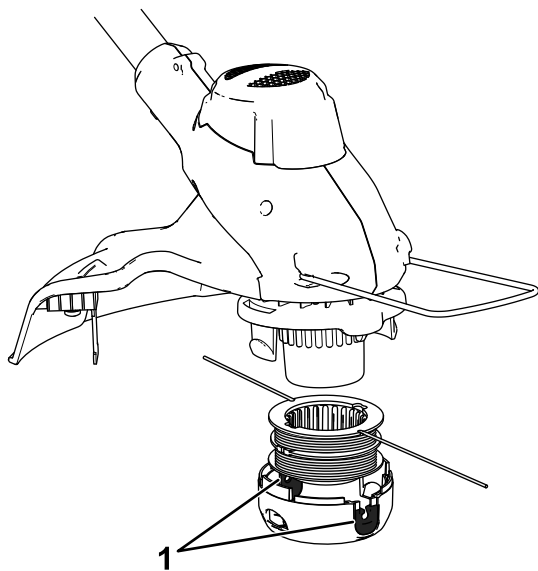

Figure 19
8. Install the spool into the cover and route the ends of the string through the holes in the cover as shown in Figure 19.